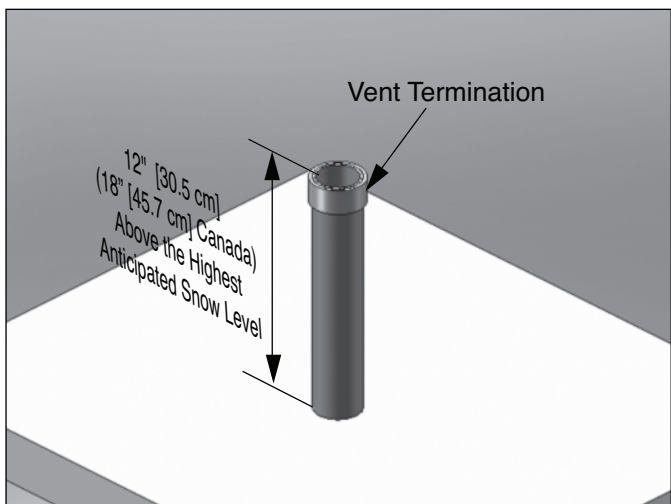

Fig. 14: Category - IV - Vertical Termination of Vent Pipe
3. The vent must terminate vertically with a coupling and must be located 12" [30.5 cm] (18" [45.7 cm] Canada) above the highest anticipated snow level as shown in Fig. 14.
3. Locate the vent pipe penetration to provide clearances as described in Fig. 14 on page 25.
3. The vent piping must terminate vertically with a coupling as shown in Fig. 14 on page 25.
Do not extend the vent pipe above the roof beyond the given dimensions shown in Fig. 14 on page 25. Extended exposure of the vent pipe could cause condensate to freeze and block the vent pipe.